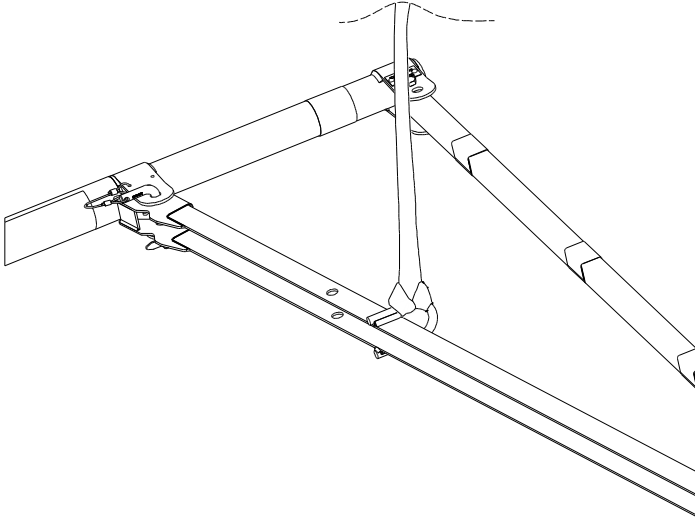

Figure 28. Detail of sling installation.
- 7.3 Make sure the incorporated Endless Webbing Sling is attached correctly, see Figure 28. The Sling is used for positioning and repositioning of the SkyReach Anchor to the required location on the column.